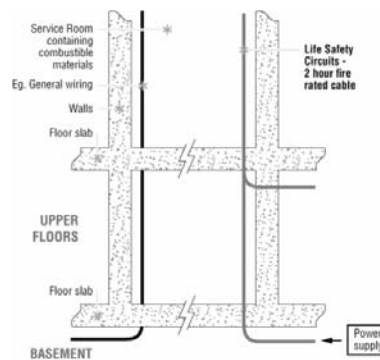

Figure 6
The majority of consulting firms in Canada are well aware of “fire protection of electrical conductors for life safety circuits” and usually specify 2-hour ULC listed cables for new construction or retrofit projects. However, not all do so; some of the firms that specialize in new high-rise residential construction have a tendency to allow “construction methods” as alternatives to specified listed cables (Figure 6 & 7).
- Non fire-rated junction and pull boxes compromise the system. (Figure 6)